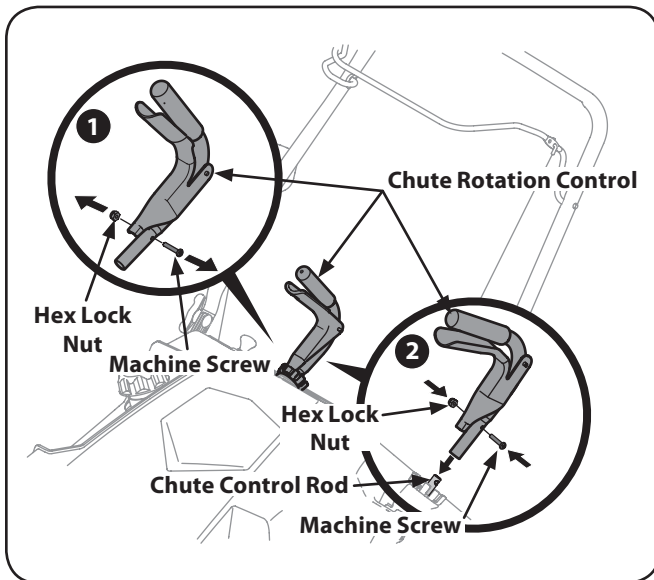

Figure 3-5
- Remove the hex lock nut and machine screw from the chute rotation control. See Figure 3-5.
- Place the chute rotation control onto the chute rotation rod and secure with the hex lock nut and machine screw removed in step 1. See Figure 3-5.